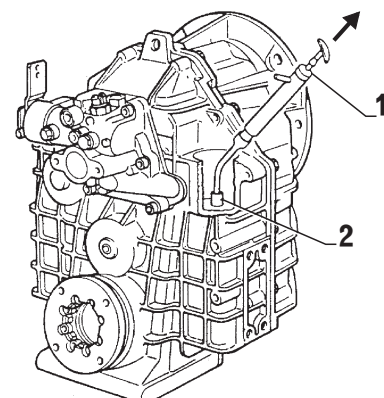

FIG. 1-2
Push hose of suction pump (item 1, Fig. 1-2) through the suction pipe (item 2, Fig. 1-2) down to the bottom of the housing and suck the fluid off.
When taper roller bearings need replacing on the input shaft, the butting rings (Fig. 1-2, item 3) and needle bearings (Fig. 1-2, item 1) should also be replaced. When replacing inner roller bearings use the same manufacturer.